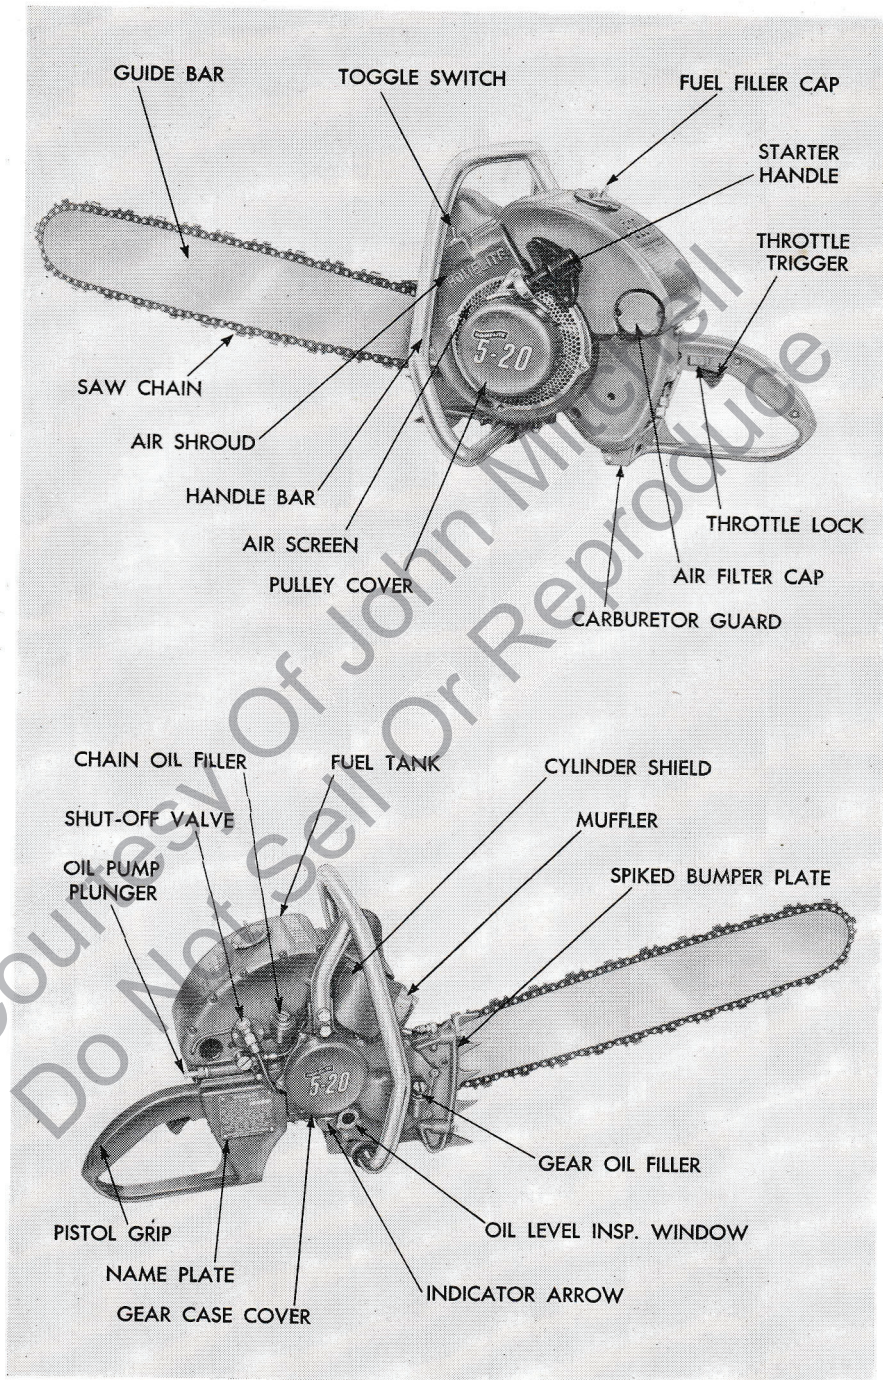

Figure 1—Homelite Model 5-20 Chain Saw
(1) The engine gear case has been drained for shipment. The engine carton contains a can of gear oil for filling the gear case, and a combination assembly tool. The chain and guide bar have been packaged separately.
(2) When you mail in your guarantee card, HOMELITE registers the serial number of the saw in your name and the guarantee goes into effect. The serial number is stamped on the name plate (See figure 1, *bottom*) of your unit. When ordering parts, always give both model and serial number of the saw, so there will be no delay in filling your order.
### a. Starting (see figure 1)
- (1) Push toggle switch to "ON" position.
- (2) Open the fuel shut-off valve all the way (counterclockwise).
- (3) Pull the choke lever, located on the left side of the carburetor, back as far as it will go.
- (4) Depress the throttle trigger in pistol grip. (See figure 1.) Lock throttle open by pulling back throttle lock located on the left side of the pistol grip. Operate oil pump plunger three times to lubricate chain.
- (5) Be sure the chain is clear of all obstructions before pulling the starter,